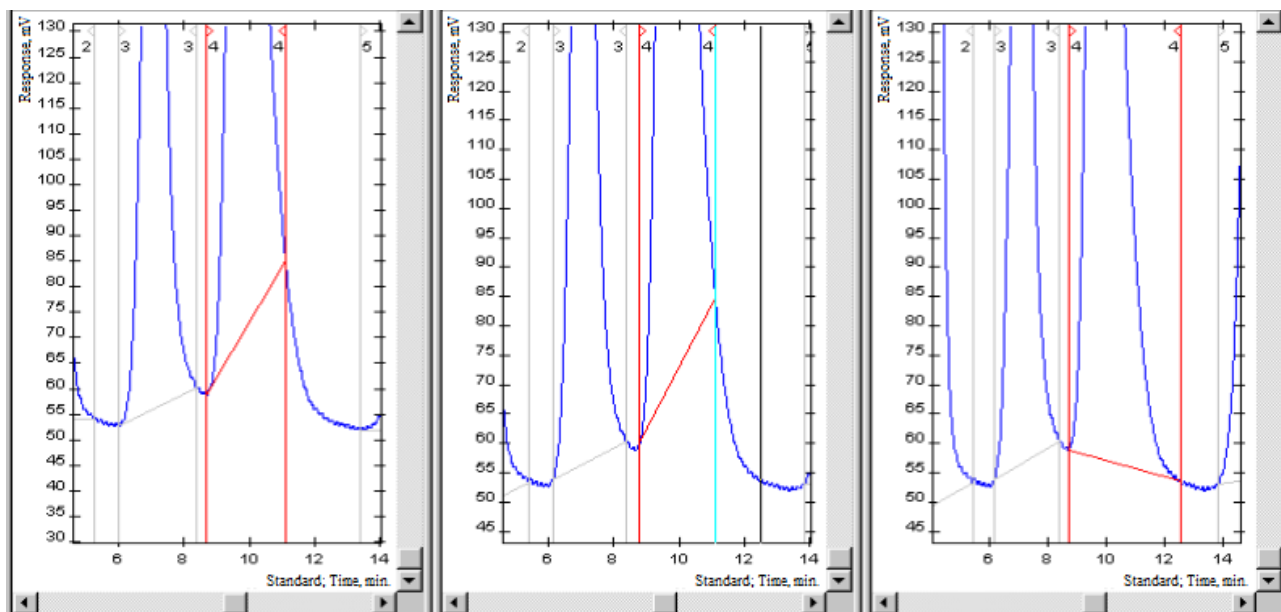

Fig. 54: 1) Selected peak. 2) Moving peak boundary. 3) Result.
2. To move the peak boundary, click it, and holding down your left mouse button, move the boundary to the desired position (Fig. 54).